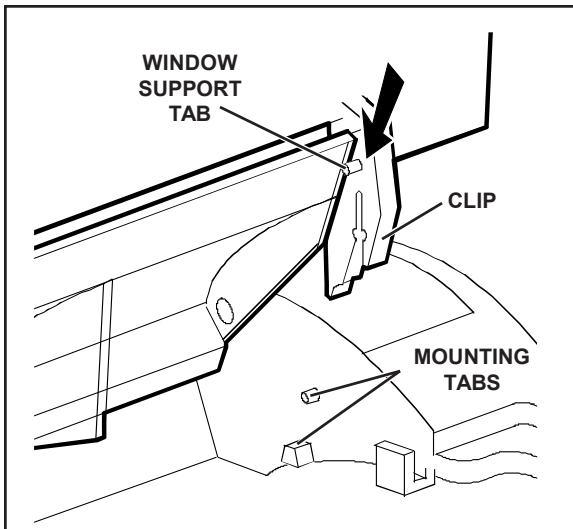

Figure 5-2. Aligning the Platen Window and Top Cover
1. Position the platen window between the back edge of the top cover and the window support tabs, as shown in figure 5-2.